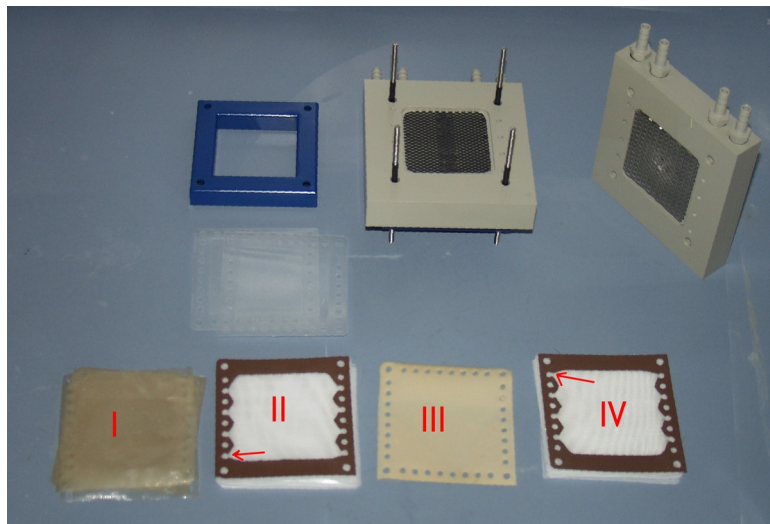

Fig. 11: Starting configuration to assemble a stack.
- Put the 4 bolts in the stainless steel frame and the anode chamber and put them on the table with the screws facing down as shown in Fig. 11.
- Prepare the membranes and spacers in four different staples in the following sequence as shown in Fig. 11:
- Check out the orientation of the spacers in staple II and IV. They need to be as indicated by the arrow in Fig. 11.